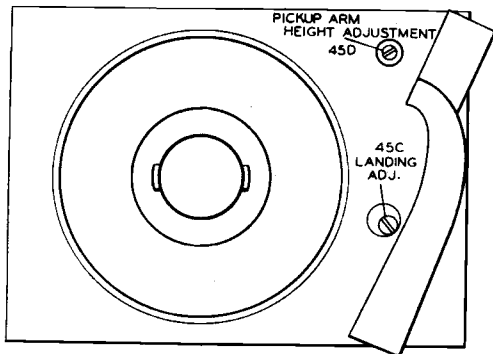

Figure 42—Height and Landing Adjustment Studs.
1. After the tripping adjustment has been made as described above, turn the eccentric landing adjustment stud (45C) so that the sapphire will set down on the record half-way between the outer edge and the first music groove. This position is  $2\frac{5}{8}$ " from the turntable spindle. The location of the adjustment stud is illustrated in Figure 42.
Set the mechanism in cycle. Turn the turntable by hand, until the pickup arm has reached its maximum height. By means of a screwdriver turn the height adjustment stud (45D) until the distance between the top of the turntable and the sapphire point is  $\frac{3}{4}$ " Use that position of the eccentric stud which causes the pickup arm to rise during clockwise adjustment of the stud. The location of the adjusting stud is illustrated in Figure 42.